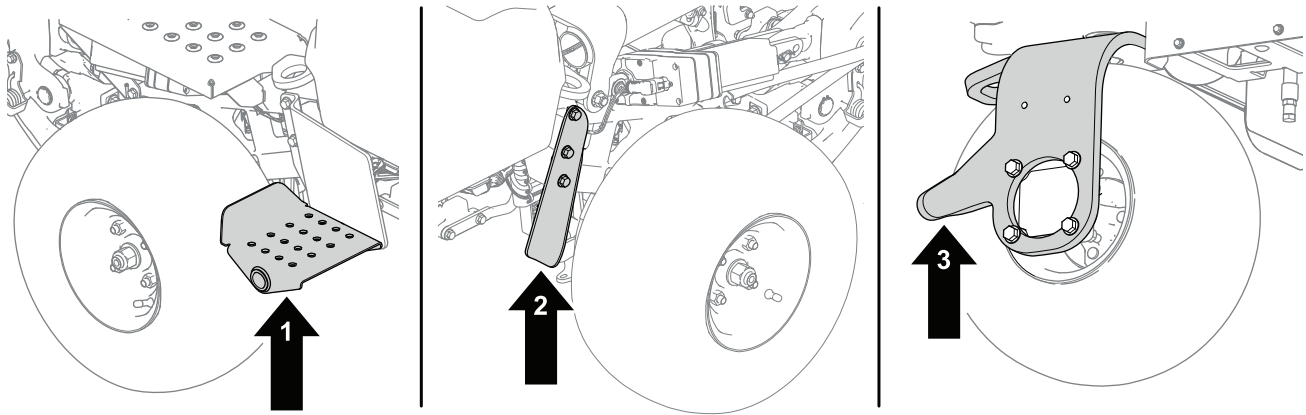

Figure 40
1. Position a jack at the desired jacking point (Figure 40):